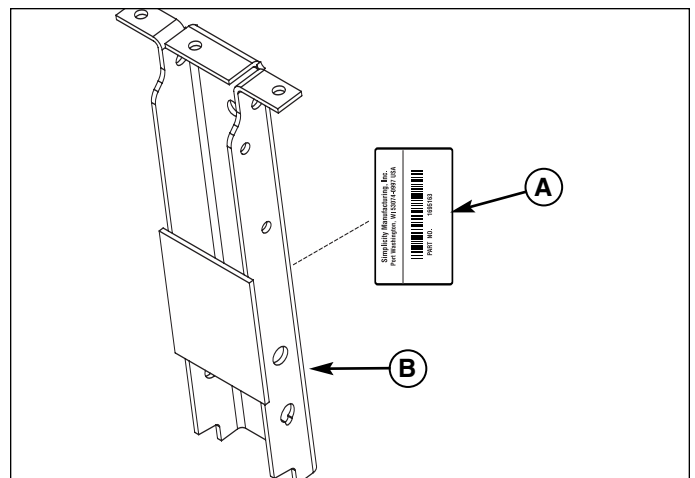

Figure 2. Apply New ID Label
1. Apply new ID Label (A, Figure 2) directly over exist-ing product ID Label on channel assembly (B).